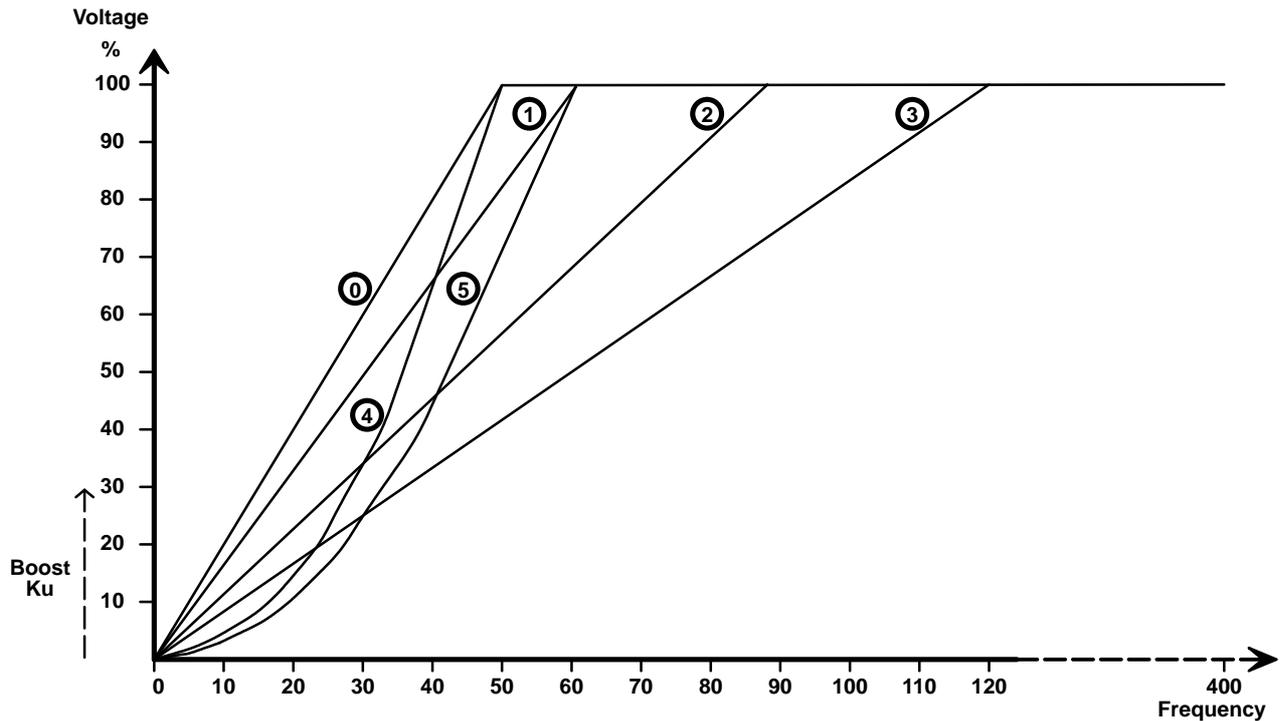

Figure 2: Voltage/Frequency Characteristic Curves
Six voltage/frequency characteristic curves are available plus one programmable curve (see Figure 2). They are intended for the following applications:
- Curve 6: Programmable (not shown in Figure 2)